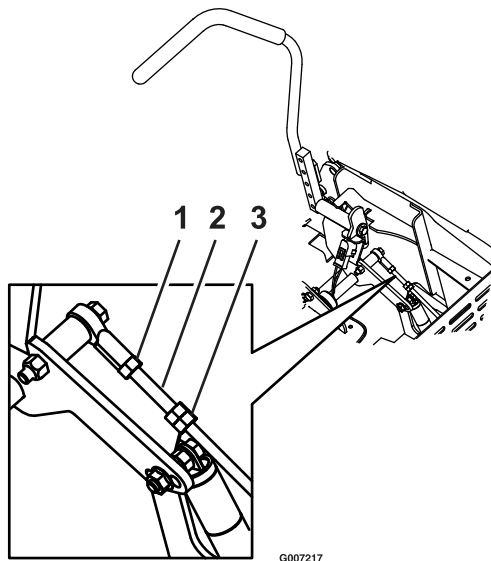

Figure 17
- To adjust each linkage, loosen the jam nut next to the ball joint at the upper end of the linkage rod assembly. Then rotate the assembly using a wrench to turn the double nuts on the assembly (see Figure 17).